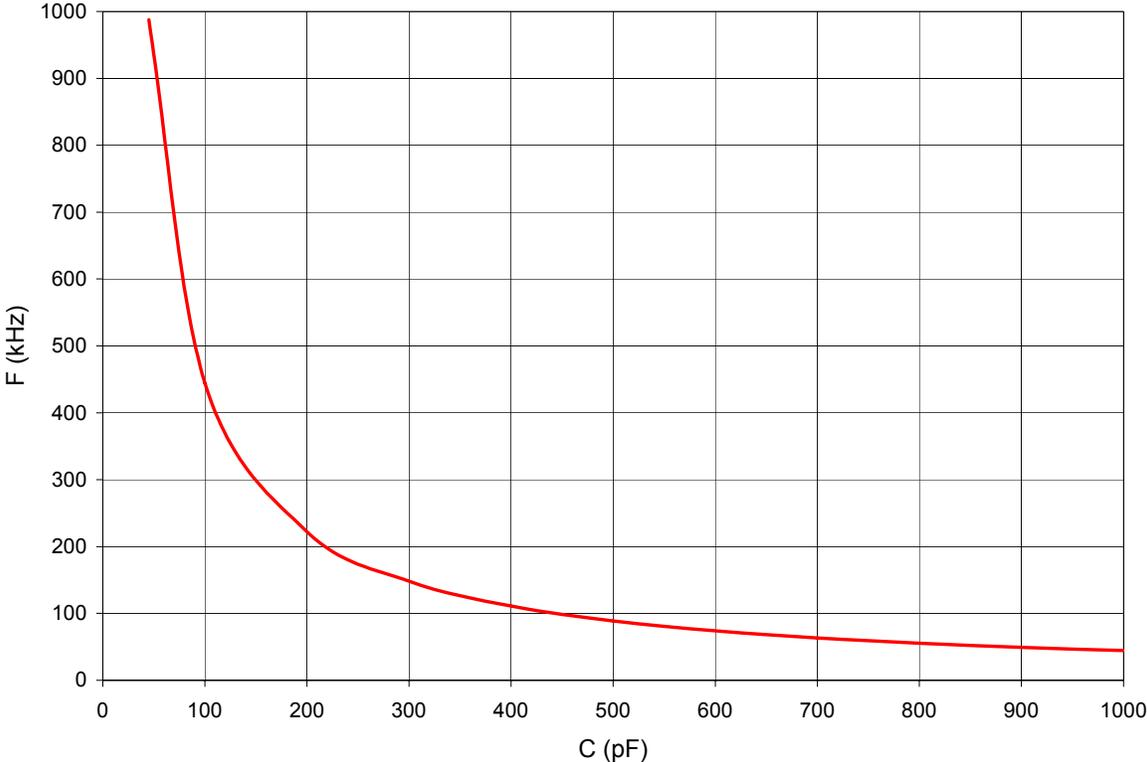

**Figure 70. Connecting the On-Chip Oscillator to an External RC Network**
Figure 70 displays a recommended configuration for connection with an external resistor-capacitor (RC) network.